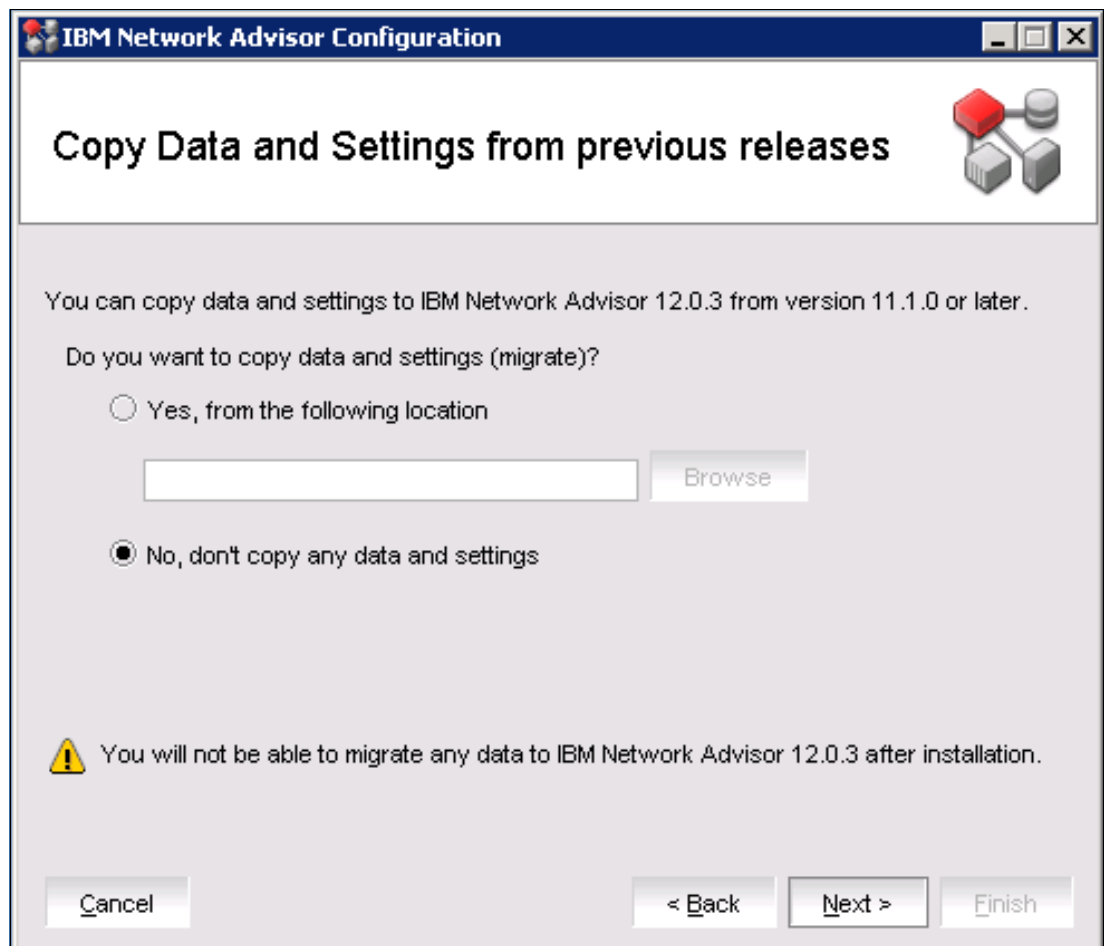

Figure 3-8 Copy Data and Settings from previous releases window
8. The Copy Data and Settings from previous releases window opens and prompts you for a copy of the data and settings from your previous installation. As this is a new installation, select **No, don't copy any data and settings**, as shown in Figure 3-8. Click **Next**.